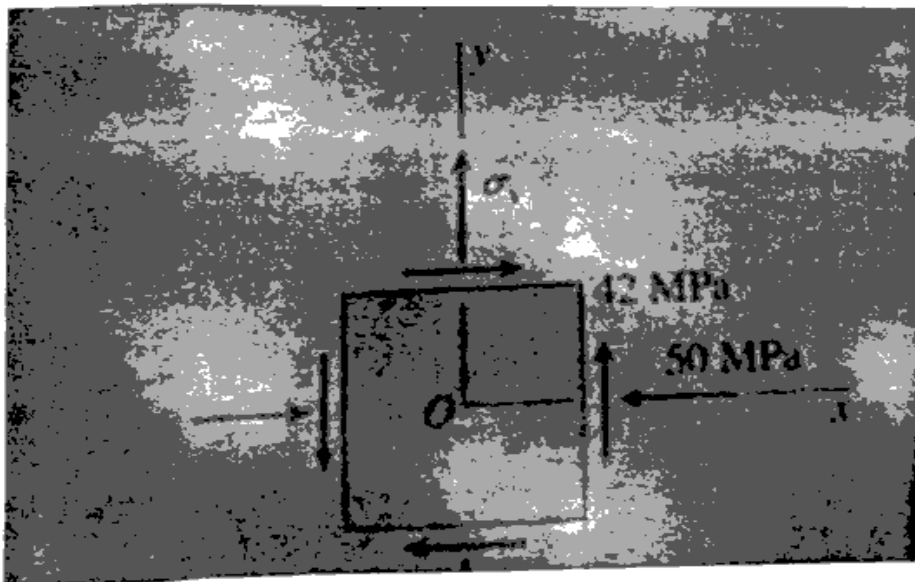

Figure 3
2. An element in plane stress is subjected to stresses  $\sigma_x = 50$  MPa and  $\tau_{xy} = 42$  MPa as shown in figure 3. It is known that one of the principle stresses equals 33 MPa in tension.